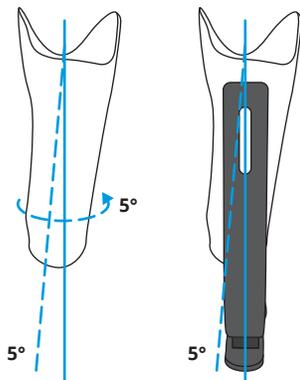

Figure 1
5. Observe the rotation of the foot, pylon M/L angle (lean) and pylon M/L position (inset) on the current prosthesis and approximate this position on the new socket by drawing a vertical line on the posterior of the new socket (Figure 1).
6. Remove the bolts from the mounting plate and use the bolt holes as "sights" to line up the mounting bracket. When choosing height for the mounting plate, place it as proximal as possible that does not eliminate room for growth, but be sure to leave enough room below the posterior socket brim to allow a suspension sleeve to seal if using vacuum or suction suspension plus ½ in. (1.3 cm) to accommodate height adjustment if needed (Figure 1).